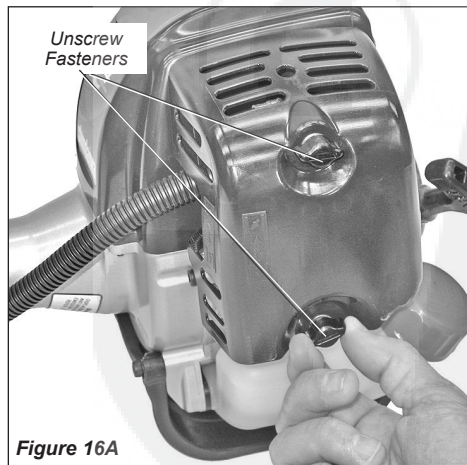

Figure 16A
1. Remove the air cleaner cover by loosening the two thumbscrews. See Figure 16A.